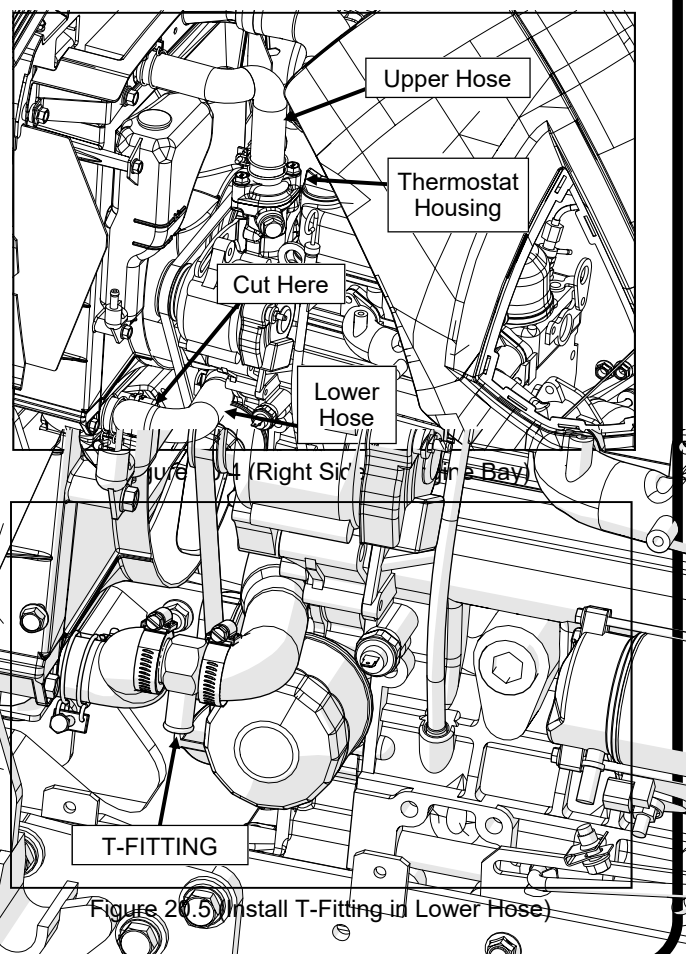

Figure 20.5 (Install T-Fitting in Lower Hose)
- 20.5 Place the two 1.5" hose clamps on either side of the cut lower hose and install the T-Fitting pointing down. See Figure 20.5. Tighten the hose clamps.